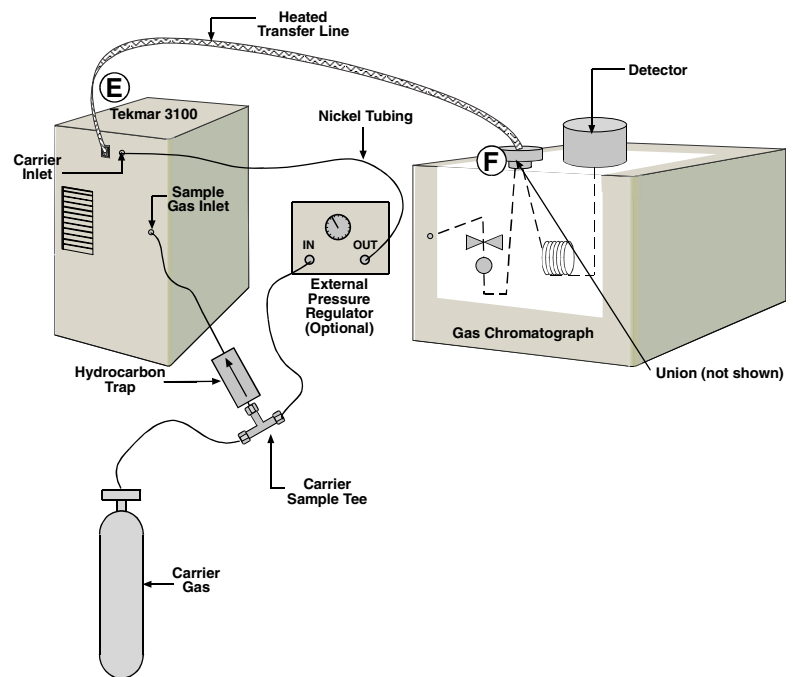

Figure 3-4 Direct Column Connections to the GC
6. Connect the tubing to the injection port inlet (at point F of Figure 3-4 on the following page) using a 1/16" Swagelok union.
Figure 3-4 shows the connections required to make a direct column connection to the GC.
- Connect the outlet of the regulator to the carrier gas inlet on the 3100 rear panel at point E (see Figure 3-4).
4. Using a zero dead volume union, connect the column to the transfer line from the 3100 at point F (see Figure 3-4).